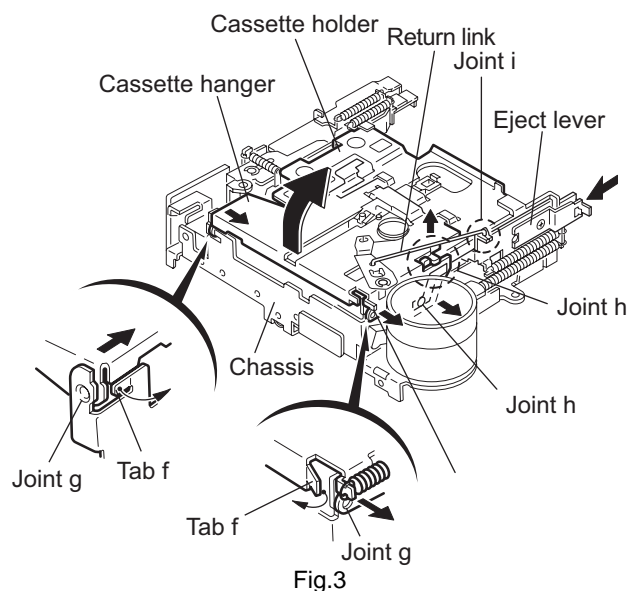

Fig.3
2.2.6 Removing the cassette hanger / cassette holder (See Fig.3)